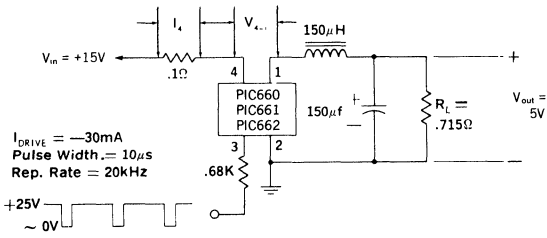

Figure 1. PIC660, 661, 662 Switching Speed Circuit
2. The efficiency is a measure of internal power losses and is equal to Output Power divided by Input Power. The switching speed circuit of Figure 1, in which the efficiency is measured, is representative of typical operating conditions for the PIC600 series switching regulators.